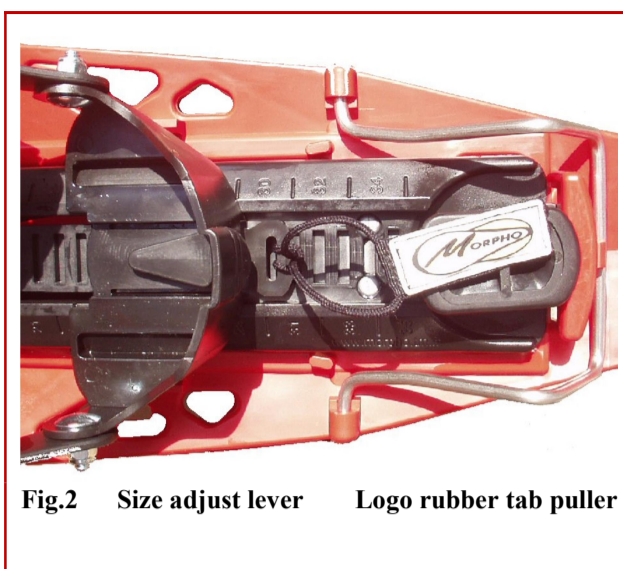
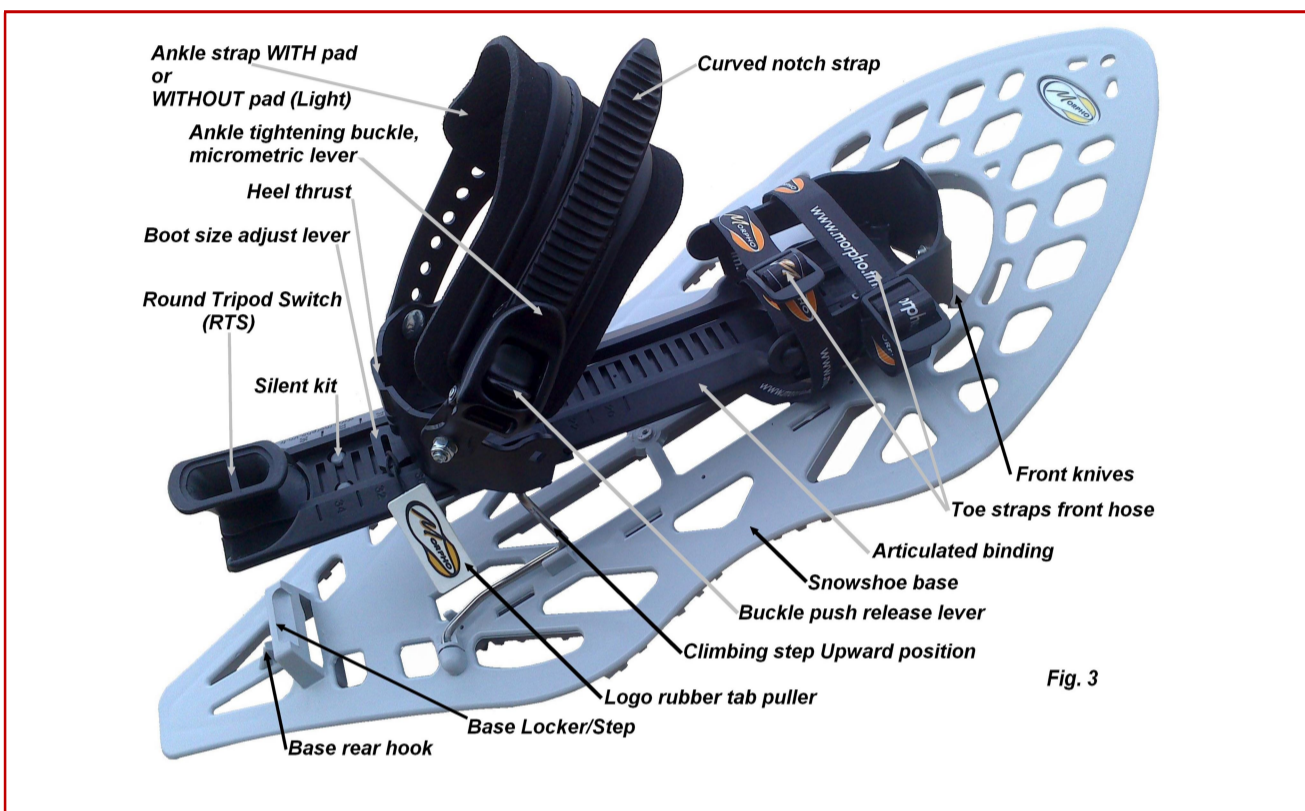

Fig.2 Size adjust lever Logo rubber tab puller
Fig. 3
1. Untighten **ankle strap** (by loosening completely the **notch strap** from the **buckle** of the strap) as well as the 2 **toe straps** so as to insert your boots and to adjust the **heel thrust** of **articulated binding** plate to your boot size. See Fig.3
3. Adjust the heel thrust to the proper size of your boot using the Morpholock system. See Fig.2:
6. **Snowshoeing:** keep **articulated binding plate free** from snowshoe base when going flat, traverse, uphill or downhill: the **RTS** unlocked from base locker/step in all cases. The articulated binding must **lay flat** on the snowshoe base or **stepping** on the extra high **metallic climbing step** when climbing steep slopes: for this purpose rotate the **climbing step** forward in its upwards position (fig.3) from its idle position (fig.2) with your gloves.
7. **After use, untighten ankle strap** first: push on the **release lever** of the ratchet buckle and pull out the ankle strap from the notch strap while keeping pressure on the **buckle push release lever**. Then untighten the 2 toe straps: pull up the ends of the quick buckles and loosen the webbings. See fig 3. Remove your boot. **To store** the snowshoe push the articulated binding on the base and lock it to the base by **rotating the RTS** so as to **insert it into the base locker/step**. See fig.2
.When rotating backward metallic climbing step to its idle position make sure to fully push it down until it is blocked by the snowshoe base **rear hook**. (fig.2)